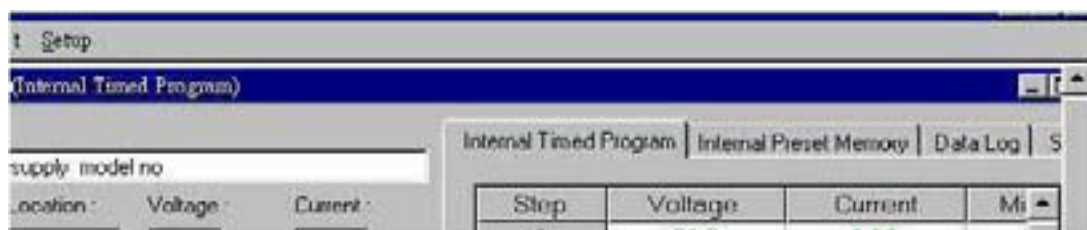
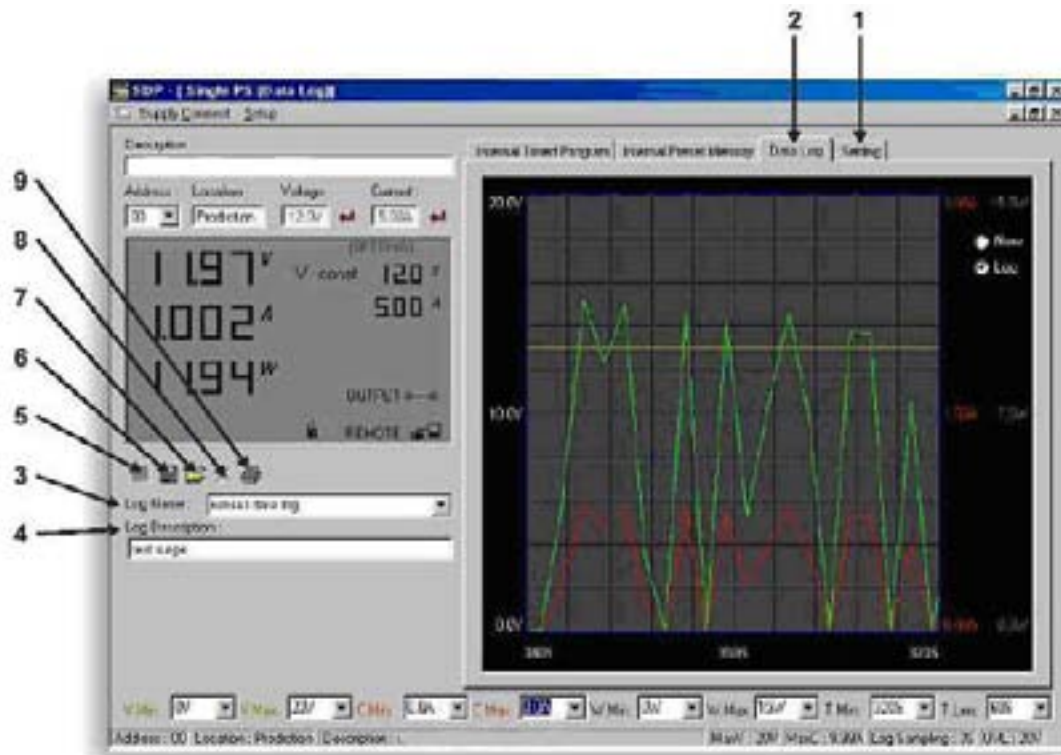

Fig. 8.4.1b. Internal Timed Program Header
Figure 8.4.1c Data Log Window
6. An 'Internal Timed Program' Window will appear as shown in Figure 8.4.1b. Click on the *Data Log* header on top right and a *Data Log* Window as shown in Figure 8.4.1c will appear.